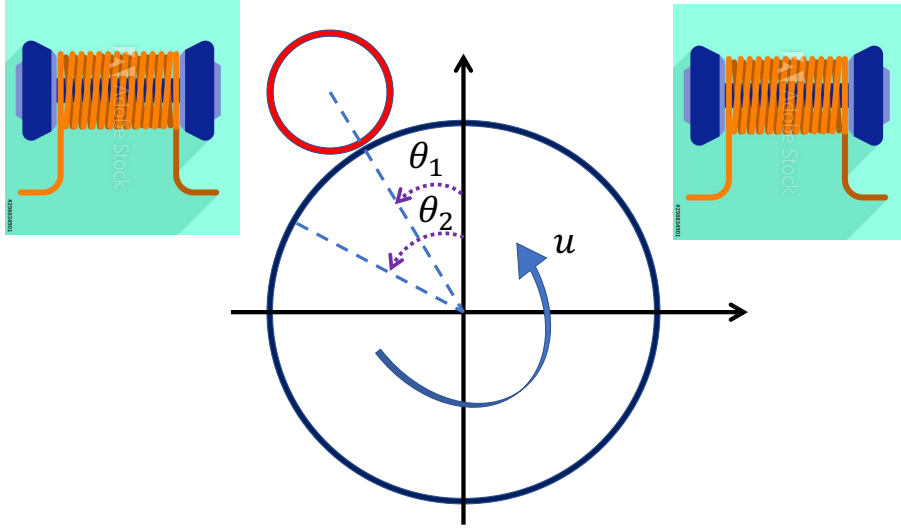

Figure 1: Ball and wheel system with an additional control input.
1. **Set-point tracking** Consider the ball and wheel system, described in A1. Assume that we add two magnets, as depicted in Figure 1, and use the coil current in each one to produce a desired force on the ball.